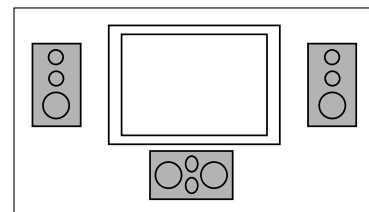

Figure 3.
**S4HC:** If you have purchased the horizontal channel speaker (model S4HC) for the center position, be sure to position it horizontally during installation in order to take advantage of its sound-dispersion characteristics. If you mount it vertically it will not provide the correct dispersion pattern. Although the preferred speaker model to be used with a perforated projection screen is the vertical model S4VC (above), the S4HC horizontal speaker may be used instead and should be mounted behind the center of the screen. If a nonperforated projection screen, plasma display or other fixed video device is being used in the installation, then the recommended location is directly below and as close as possible to the video display (see Figure 3), although the inverse of this method will work also.